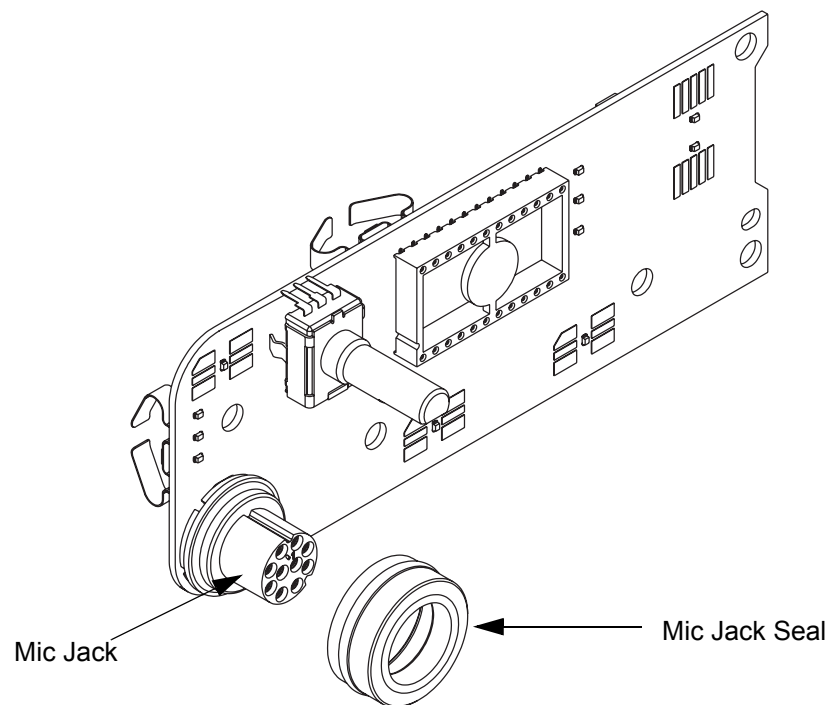

Figure 5-36 Mic Jack Seal Assembly
- a. Assemble the mic jack seal around the mic jack as shown in Figure 5-36.